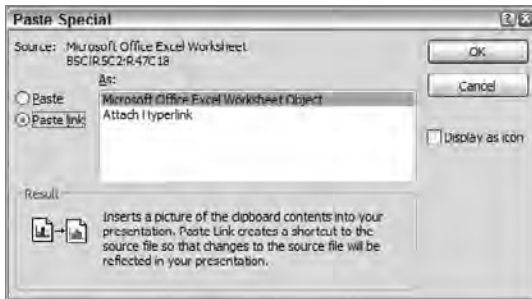

Figure 29.6: Copy the Excel range and then use Edit ⇨ Paste Link to create a linked PowerPoint slide.
4. Choose Edit ⇨ Paste Special to display the Paste Special dialog box shown in Figure 29.6.